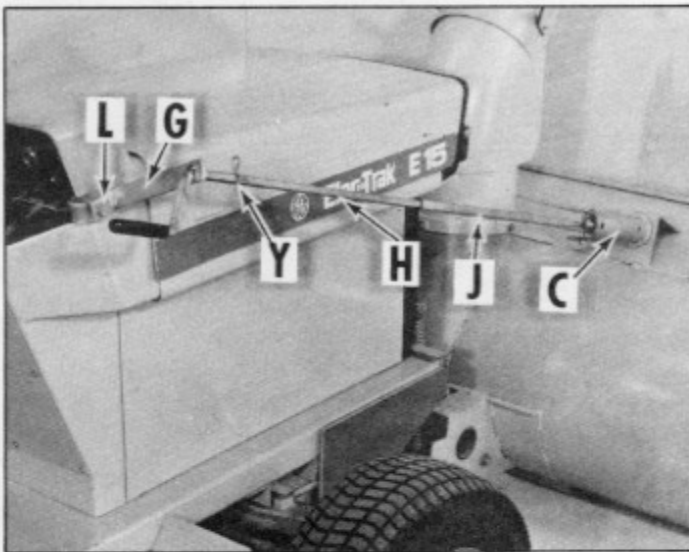

Fig. 11
Insert crank rod hooked end (H) through eye bolt in cable tube at discharge chute bracket (C) (Fig. 11). Mount crank support bracket (G) to the right side of tractor control cabinet in the position as shown in Fig. 11. Secure it in place by tightening bolt (L). Slide upper crank rod (H) through support bracket and into end of lower crank rod (J). Secure in place with hair pin cotter (Y).